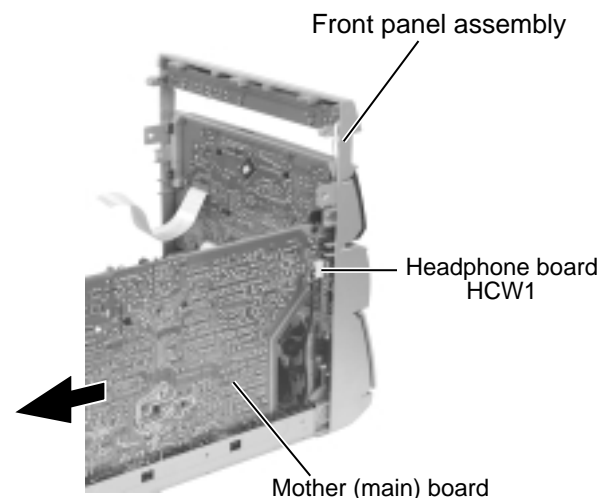

Fig.15
■Removing the mother(main) board (See Fig.15 and 16)